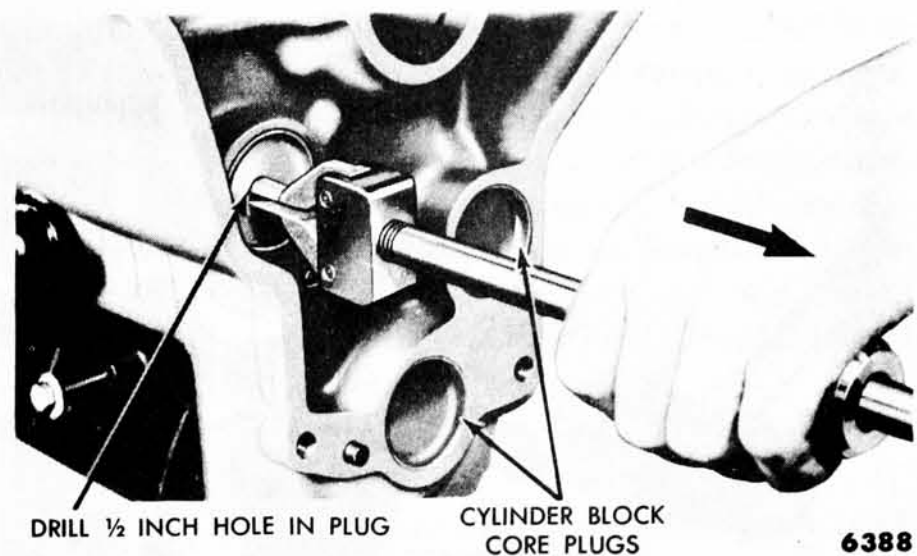
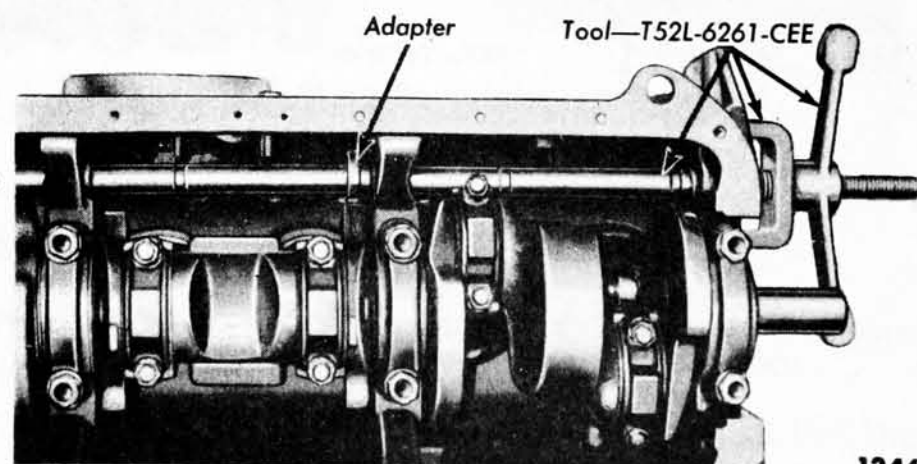

Fig. 19—Camshaft Bore Plug Removal
Fig. 20—Camshaft Bearings—Removal or Installation
(1) **REMOVAL.** Remove the camshaft. Drill a $\frac{1}{2}$ inch hole in the plug at the rear camshaft bearing bore. Use the tool shown in fig. 19 to remove the plug. Remove the camshaft bearings with the tool shown in fig. 20.
(2) **INSTALLATION.** Position the bearing at the bearing bore, and press it in place with the tool shown in fig. 20. No. 1 cam bearing must be pressed in 0.005 - 0.025 inch below the front face of the bearing bore. Press the remaining bearings in sufficiently to align the oil supply holes.